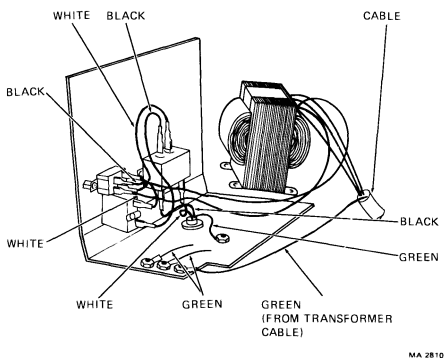

Figure 3-15 Transformer Assembly Wiring Diagram
6. Reverse steps 1 through 5 to replace the transformer assembly. Figure 3-15 shows the interconnecting wiring between the transformer assembly components: